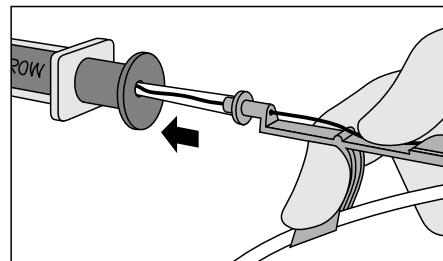

Fig. 5
- Place the tip of the Advancer™ – with “J” retracted – into the hole in the rear of the Raulerson Syringe plunger (refer to Fig. 5).